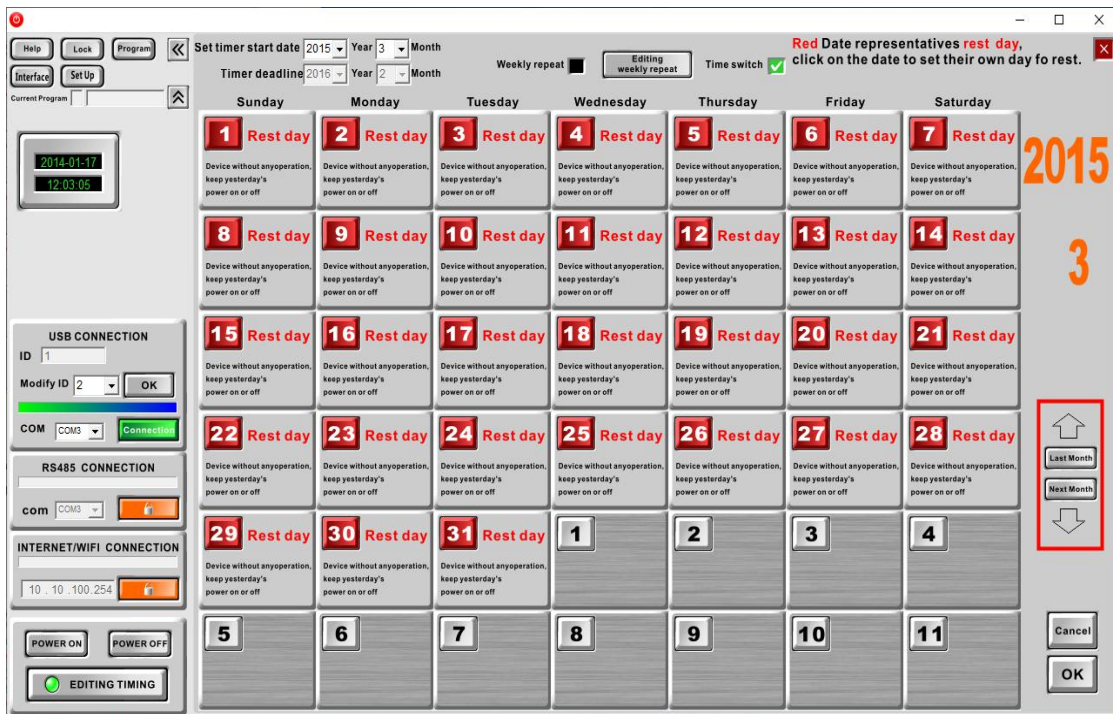

Figure 16
Step 2: Click "Previous Month" and "Next Month", and select the timed editing interface as March 2015, as shown in the red box in Figure 16 below.